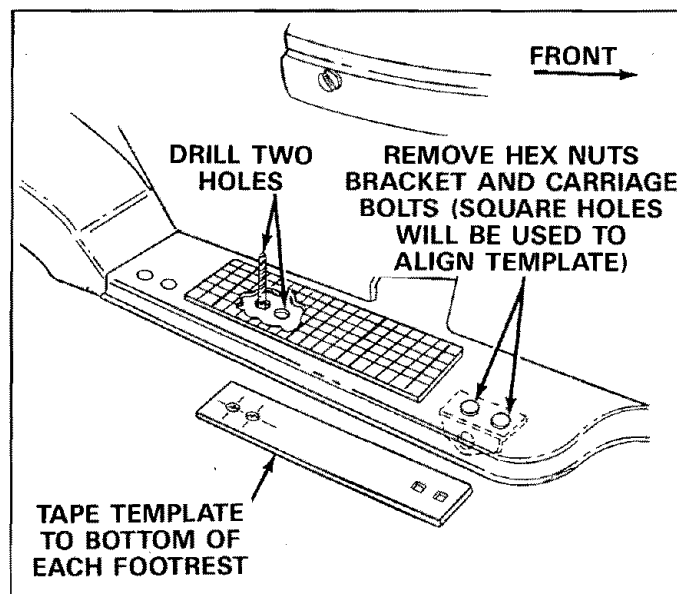

FIGURE 11
11. Cut out the templates furnished with this supplement. Remove the 5/16-18 hex nuts, angle brackets and carriage bolts from the right and left hand footrests. See figure 11.